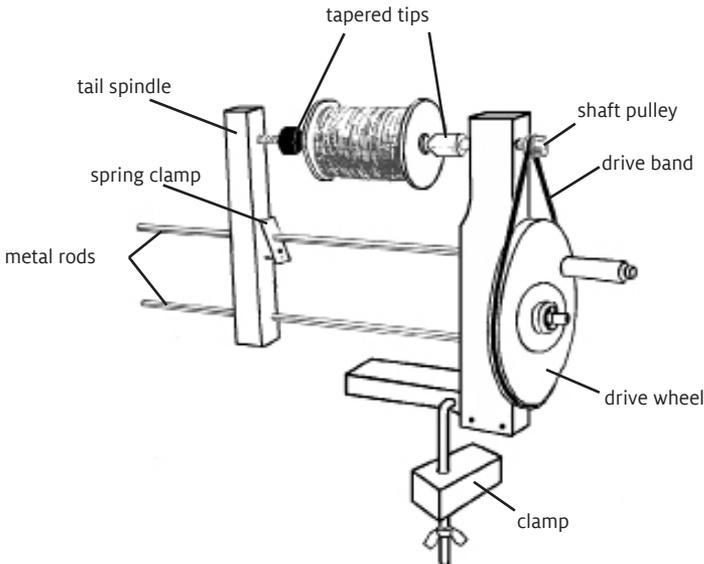

FIGURE 3
2. Place the tail spindle on the two metal rods by pressing the spring clamp toward the tail spindle and sliding the spindle onto the metal rods. The tapered tips on the bobbin winder should face each other (figure 3).